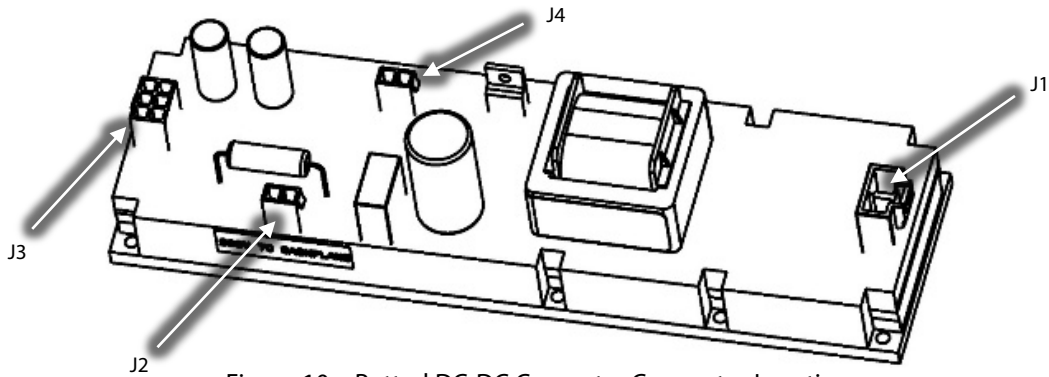

Figure 10 – Potted DC-DC Converter Connector Locations
- d. Remove connector J1 from the DC-DC. Refer to Figure 10 – Potted DC-DC Converter Connector Locations.
- c. Remove connector J1 from the DC-DC. Refer to Figure 10 – *Potted DC-DC Converter Connector Locations*.